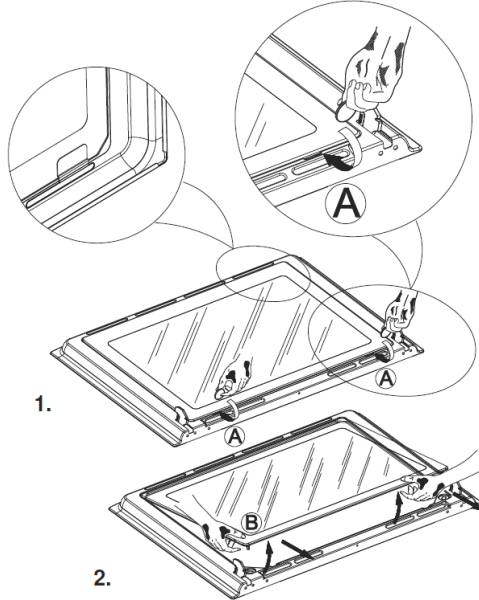

Figure 10.
1. The door with internal glass panel (Please see **figure 10** below)
To remove the oven door inner glass panel, use a coin to perform a levering action in the 2 grooves (A) until the 2 pins (B) are released from their housing (point 1). Then raise the glass as shown at point 2 and take it out from the top. To refit the door, repeat the 2 previous operations in reverse. Reinsert the glass by resting it on the inner door and pushing it in. Press on the glass until the pins slot back into their initial positions (point 2). See figure 10 below.